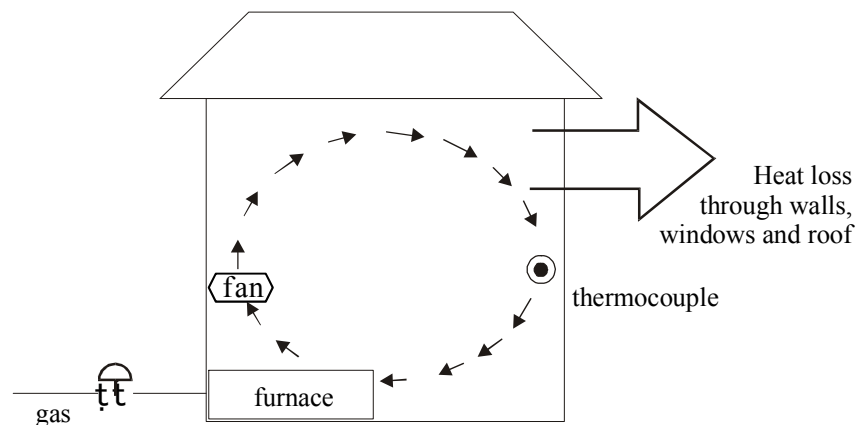

Figure 1.1. Residential air heating system.
1. Figure 1.1 shows an air heating system used to regulate the temperature in a house. In this system, air warmed by a furnace is circulated around the house, driven by a fan that has adjustable speed. The furnace is fuelled by gas. It has an on-off characteristic such that if the gas valve is opened the furnace is on; if the gas valve is closed the furnace switches off.